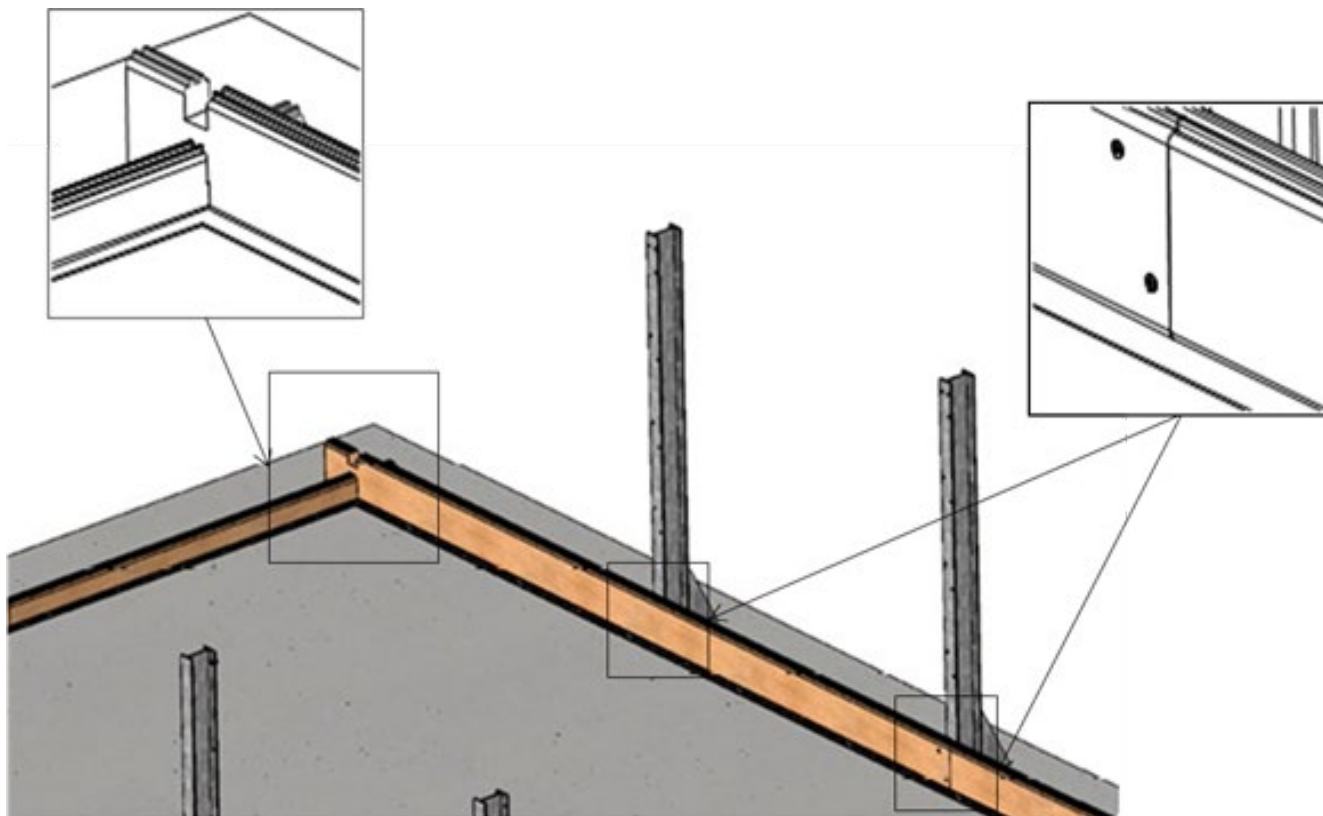

Figure 10 – Screwing the slats together
- referring to *Figure 10*, screw the slats together using 2 screws per pair of slats in each of the 10 rows, that is, 160 countersunk screws 5 × 40 A4 SS torx threaded over 25 mm (bag C);